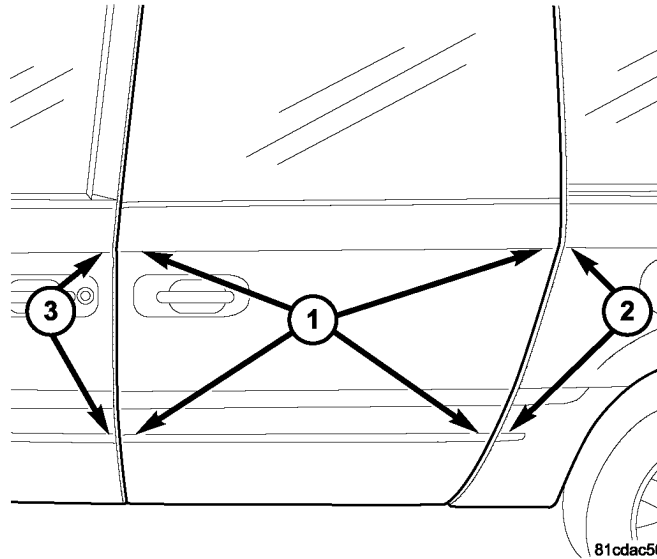

Fig. 4 BODY CHARACTER LINES
6. Visually inspect the sliding door height by checking the alignment of the character lines to the quarter panel and front door (Fig. 4).